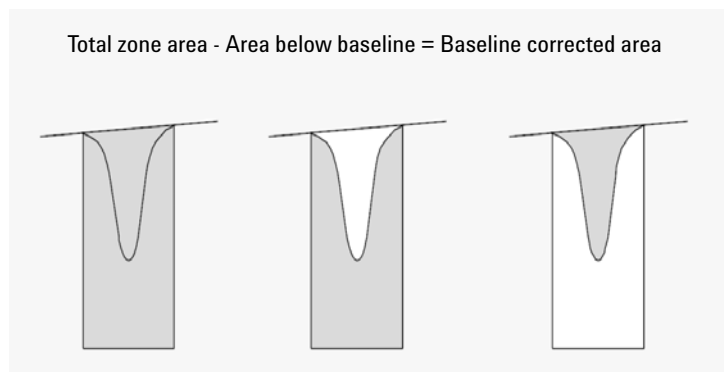

Figure 21 Area Measurement for Negative Peaks
- for tangent (T) peaks, the area above the reset baseline,
- for solvent (S) peaks, the area above the horizontal extension from the last-found baseline point and below the reset baseline given to tangent (T) peaks. A solvent peak may rise too slowly to be recognized, or there may be a group of peaks well into the run which you feel should be treated as a solvent with a set of riders. This usually involves a merged group of peaks where the first one is far larger than the rest. The simple drop-line treatment would exaggerate the later peaks because they are actually sitting on the tail of the first one. By forcing the first peak to be recognized as a solvent, the rest of the group is skimmed off the tail,
- negative peaks that occur below the baseline have a positive area, as shown in Figure 21 on page 48.